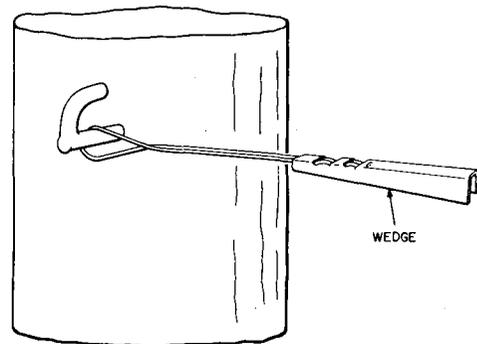

Fig. 1 — Wire Loop of Wedge Hook
2.01 Place the wire loop of the wedge on the drive hook as indicated in Fig. 1. Where the attachment is a knob, spread the wire loop sufficiently to permit its slipping over the knob and into the groove. Then pull on the wire loop and at the same time pinch the two sides together until the loop conforms to the diameter of the groove.
3.01 Place the wire loop on the hook as shown in Fig. 1.